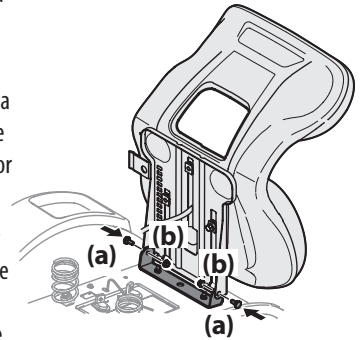

Figure 6
4. With the previously removed shoulder bolts (a) and flange lock nuts (b) secure one side of the seat and seat bracket. While supporting the seat, remove the Phillips screwdriver and secure the other side of the seat. Be careful not to crimp or damage the wire harness while installing the seat. See Figure 6. Torque to 84-103 in-lbs (9.5-11.6 N-m).